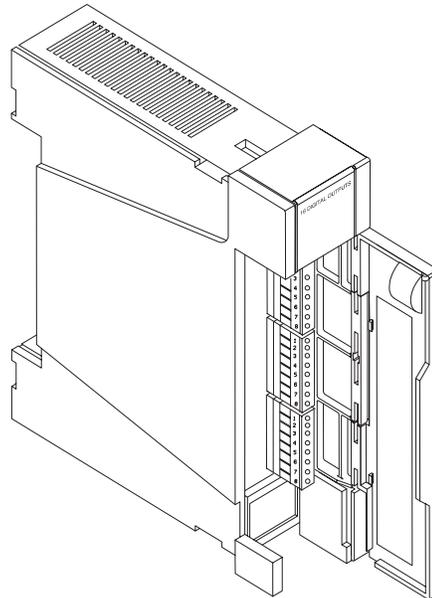

Figure 1. 16 DO Module - General View
The 16 DO (Digital Output) module (see Figure 1) provides 16 relay outputs for controlling user devices. The upper four relays are Double Pole Double Throw (DPDT) and are referred to as the “Form C” relays; the remaining twelve relays are Single Pole Single Throw (SPST) normally open (NO) and are referred to as the “Form A” relays. The relay commands are received from the CPU module.